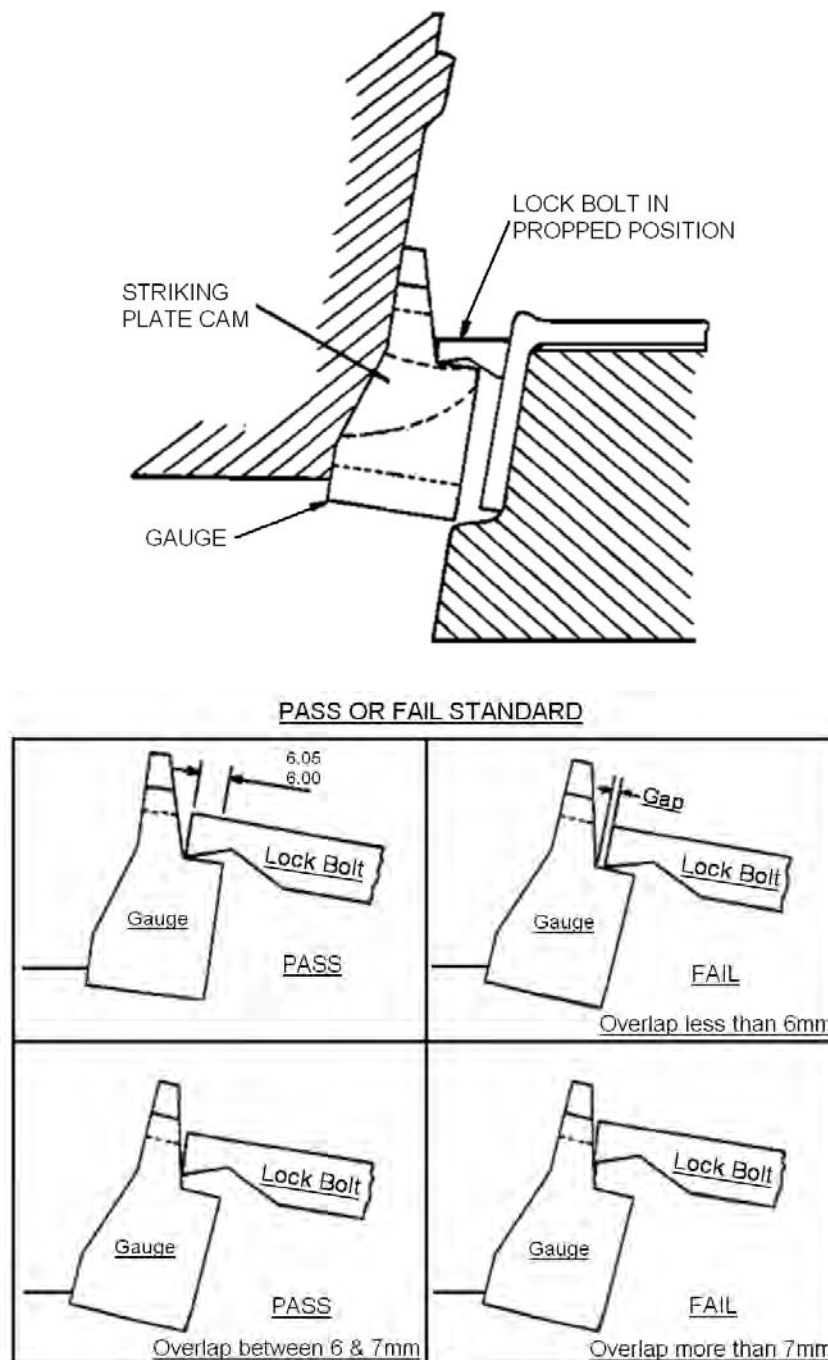

Figure 2: Striking Plate Cam Gauge
9. Check that the handle free play does not exceed 12° using gauge (see Special Tools item 2).
15. Check the overlap between the lock bolt and the striking plate cam using gauge to (see Special Tools item 3) (see Figure 2).
Job No. OL 0140 Figure 2 - Use of gauges (see Special Tools item 3) to check the overlap between the lock bolt and the striking plate.